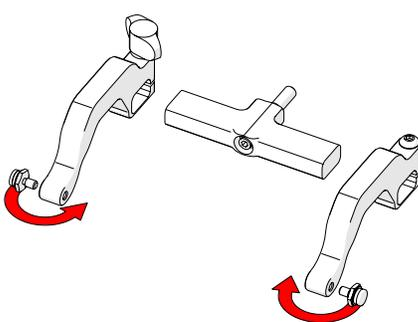

Fig. 56 - Position pivot buttons
5. Position the pivot buttons to the inside of the probe holder arms (Fig. 56).